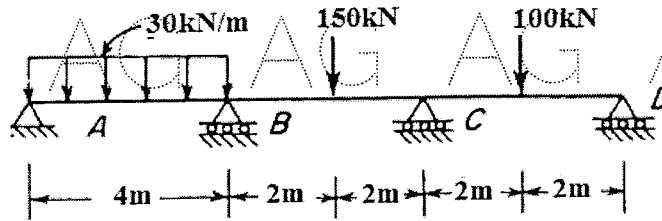

figure 6
8. Analyse the continuous beam shown in Figure 6 using Flexibility method. [10]